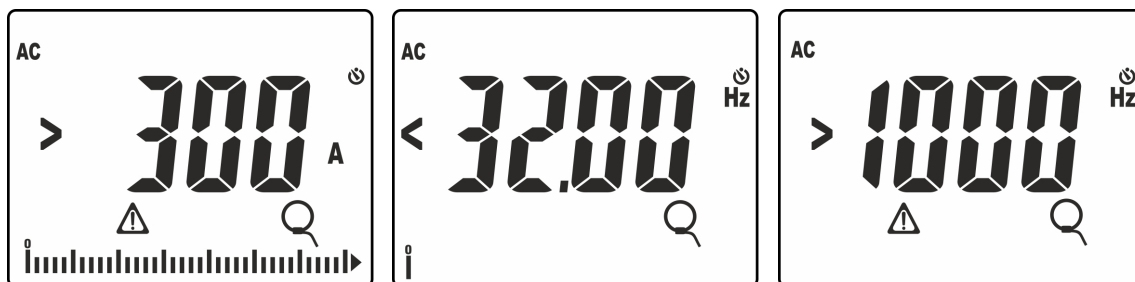

Fig. 39: Anomalous situations on current measurement with clamp transducers
11. Message “>300A” indicates that the value of current measured is higher than the set full scale (300A in case of Fig. 39). If the display shows the messages “<32.00Hz” or “>1000Hz”, the measured value of current frequency is out of the measuring range 32Hz ÷ 1000Hz.